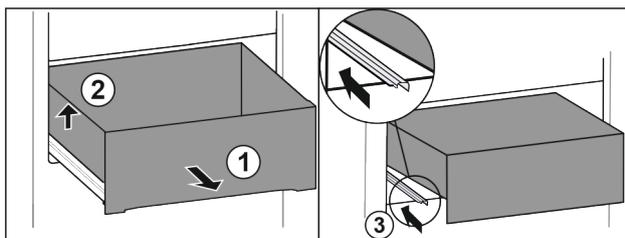

Fig. 13*
- ▶ Pull drawer out completely Fig. 13 (1).*
- ▶ Lift drawer on the left Fig. 13 (2).*
- ▶ Insert left rail Fig. 13 (3).*